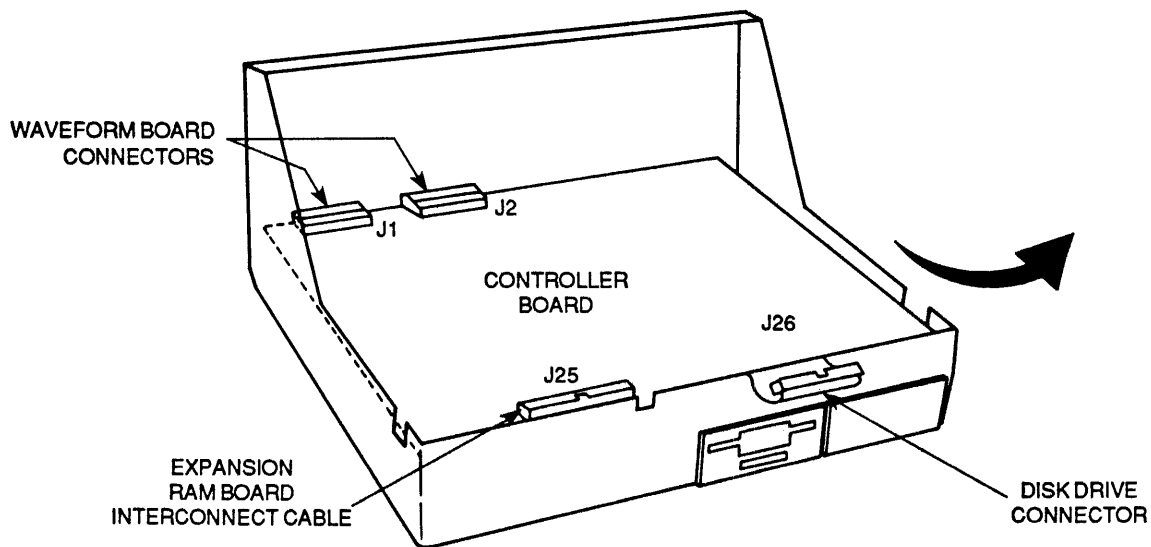

Figure 2-4. Removing the Controller Board
- Lift up the front edge of the Controller board and disconnect the disk drive cable connector, located at J26 (see figure 2-4). If installed, also remove the Expansion RAM board interconnect cable, J25. Take special care not to lift the board vertically more than about one inch, to avoid damage to the Waveform board's connector pins.